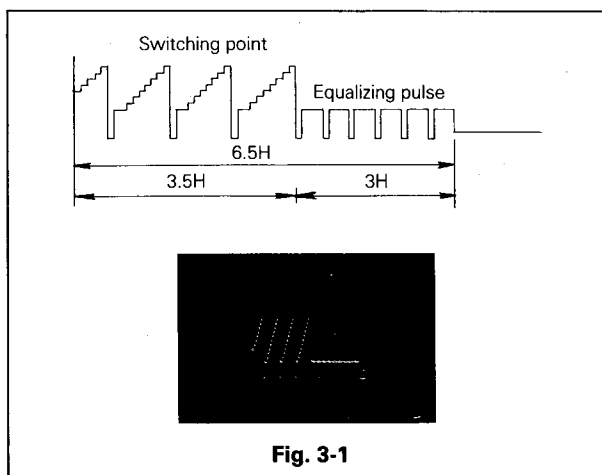

Fig. 3-1
- Connect the oscilloscope's EXT trigger to PIN NO ⑤ of connector [TP] on the PCB CONTROL.
- Connect the oscilloscope to the video output socket and adjust VR4A0 so that the trigger point is located at $6.5 \pm 1H$ before the vertical synchronizing signal, Fig. 3-1.
- Adjust VR4A1 so that the trigger point is located $6.5 \pm 1H$ before the vertical sync signal, Fig. 3-1.